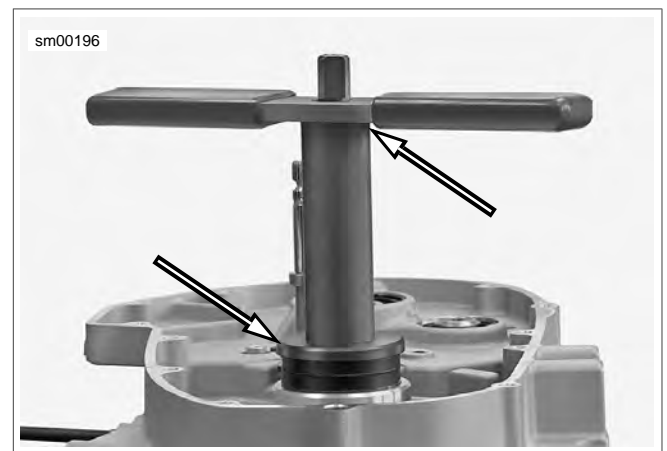

Figure 3-140. Sprocket Shaft Seal/Spacer Installer
- See Figure 3-140. Kent-Moore has developed additional tools to be used with SPROCKET SHAFT BEARING INSTALLER (Part No. HD-42579). You will need SPROCKET SHAFT ADAPTER (Part No. B-42579-6) and COLLAR (Part No. B-42579-7). The addition of these tools will update HD-42579 SPROCKET SHAFT BEARING INSTALLER to HD-42579-A. In addition, you will need SPROCKET SHAFT SEAL INSTALLER (Part No. B-45676-A) to use with these additional tools to install the seal into the left crankcase. In order to install the sprocket shaft inner bearing race for sprocket shaft bearing, you will need to borrow from the Big Twin SPROCKET SHAFT SEAL INSTALLER, COLLAR (Part No. HD-97228-55A).